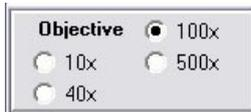

Figure 11
**colour of measuring lines** and choose an appropriate colour in the dialogue (Figure 11).